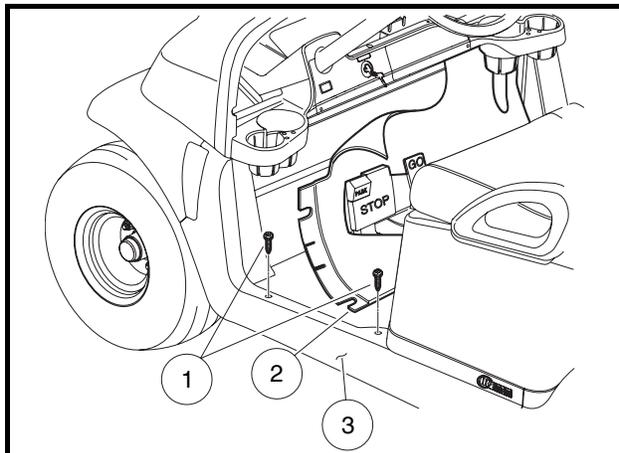

Figure 5-1 Pedal Group Access
2. Remove screws (1). Pull floor mat retainer (3) away from the vehicle (**Figure 5-1, Page 5-1**).
3. Pull floor mat (2) over the pedal group to gain access to the pedal group hardware.
11. Reinstall the floor mat (2) over the pedal group. Make sure tabs on floor mat sides are beneath the sill (3). Tighten screws (1) to 53 in-lb (6 N·m) (**Figure 5-1, Page 5-1**).